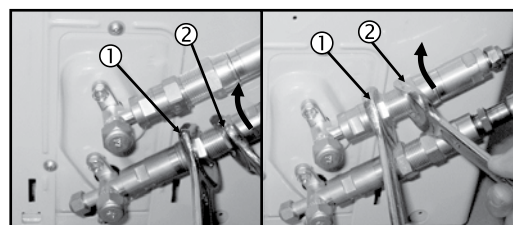

FIG. 6.4
4. Now tighten the bottom screw connector first and then the top screw connector using the open-ended wrench. Hold the points marked "①" using an open-ended wrench and turn the nuts only at the points marked "②" using an open-ended wrench (Select the appropriate wrench according to the dimensions of the connector). See Fig.6.4.